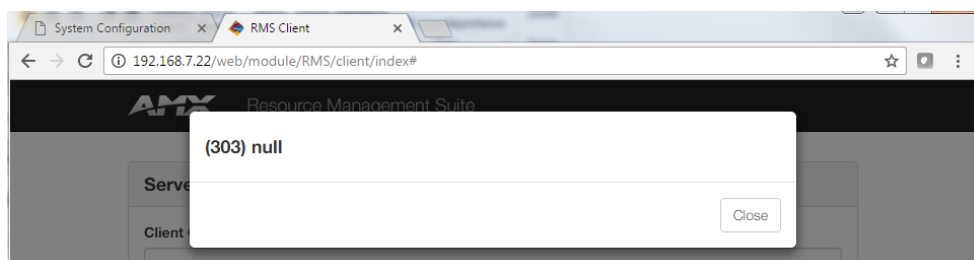

FIG. 484 NX Master -Connection Test Fail
- If you got an error when testing the connection on the NX Master then something went wrong. Possibly the wrong certificate was loaded into the Duet Truststore or maybe the master was not rebooted after uploading the Duet Truststore (FIG. 484):